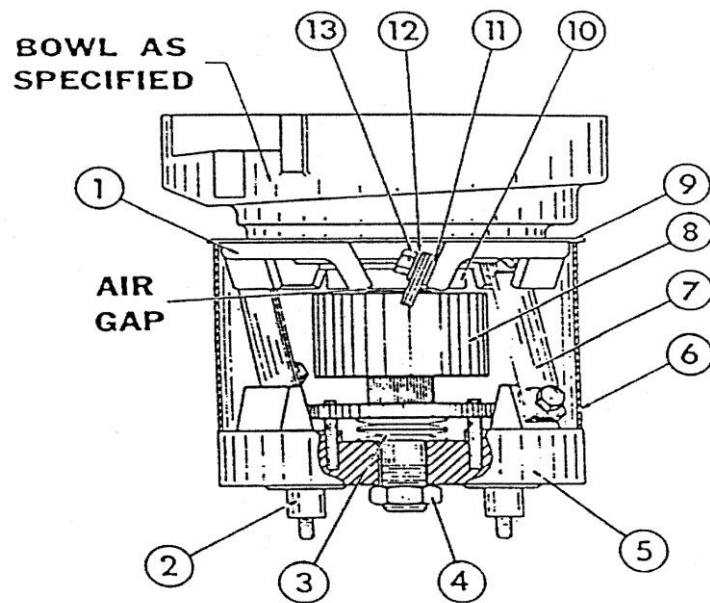

Figure 7-6 Model EB-00 Vibratory Feeder
Lift off the aluminum cover plate (see Figure 7-6, Item 9) and remove the three screws that hold the vibratory feeder cover on. Carefully lift the cover off (see Figure 7-6, Item 6).
There are 3 stacks of springs on each feeder (see Figure 7-6, Item 7). On 7" bowls there are three stacks with a 1/16" spring in each stack. On 10" bowls there are three stacks with a 1/16" spring and a 1/32" spring in each stack. Remove springs 1 stack at a time. Check to make sure there are no cracked or broken springs. The 1/16" spring is the one that breaks most often and usually around the bolt hole.
Place a .020 inch (0.5 mm) air gap spacer gauge (may be obtained from our service department) between magnet assembly (see Figure 7-6, Item 8) and bowl mounting plate (see Fig. 7-6, item 10) to keep magnet assembly and mounting plate parallel. Tighten all 3 bottom clamp bolts first. While applying pressure to the bowl mounting plate, tighten all 3 top clamp bolts, starting with the 2 at the wider part of the magnet assembly and ending with the one at the narrow part of the magnet assembly. This air gap is an initial setting only.
Remove air gap gauge. Do not reinstall cover yet. Temporarily reinstall cover plate (see Figure 7-6, Item 9). Install bowl onto vibratory feeder.